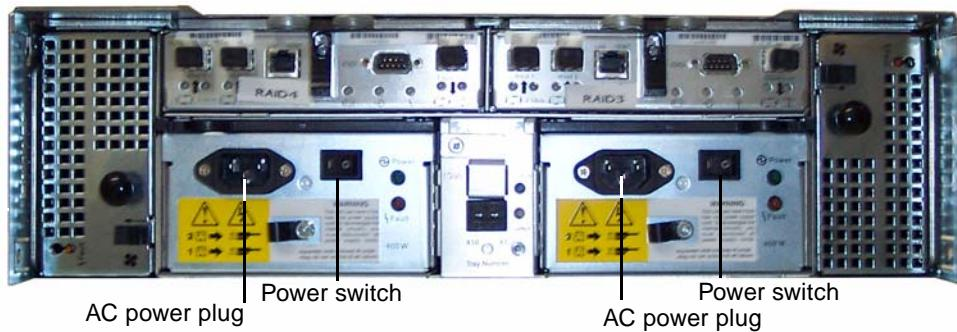

FIGURE 3-22 Controller Enclosure Back Panel
2. Make sure that the power switches are in the Off position, and then connect both AC power cables to the back of each controller enclosure (see FIGURE 3-22).